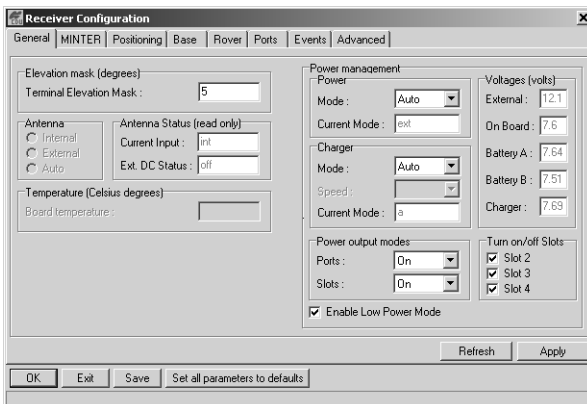

Figure 2-18. View Voltages Information
7. View the Voltages information (Figure 2-18).